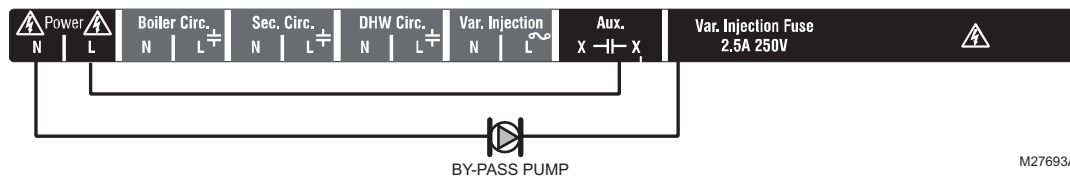

Fig. 16. Wiring of the Aux. pump line voltage rated dry contacts (example shown is a by-pass pump).
To connect a line voltage auxiliary device to these contacts, such as a group pump or a boiler bypass pump, power the device from the N and L terminals on the bottom of the Control Module, running the hot (L) lead through the Aux. Pump contacts. See Fig. 16 for details. The exact wiring schematic will depend on what is connected to these dry contacts.